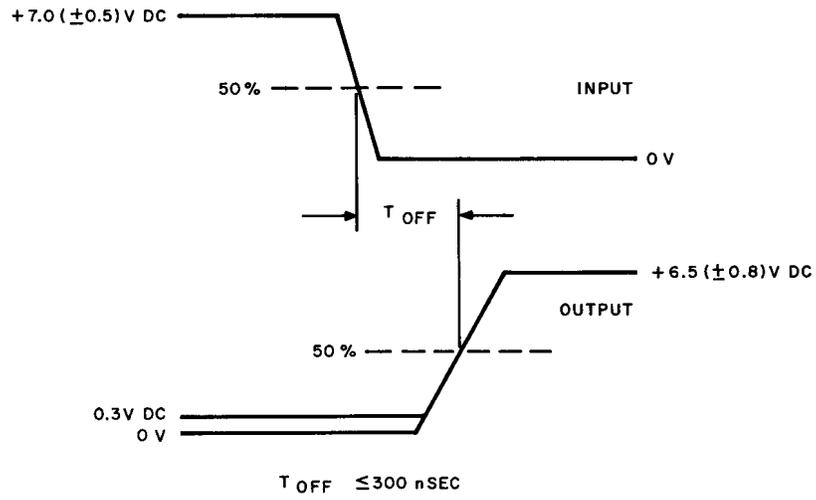

Fig. 3A—NOR Gate Test
- (1) Set the DPDT switch to position 2 and TEST FUNCTION selector to position 1.
- (2) Set the EXT SYNC TRIGGER to (-) negative.
- (3) Rotate the GATE selector through positions 1 to 10. The input and output steps shall be as specified in Fig. 3A at each position.